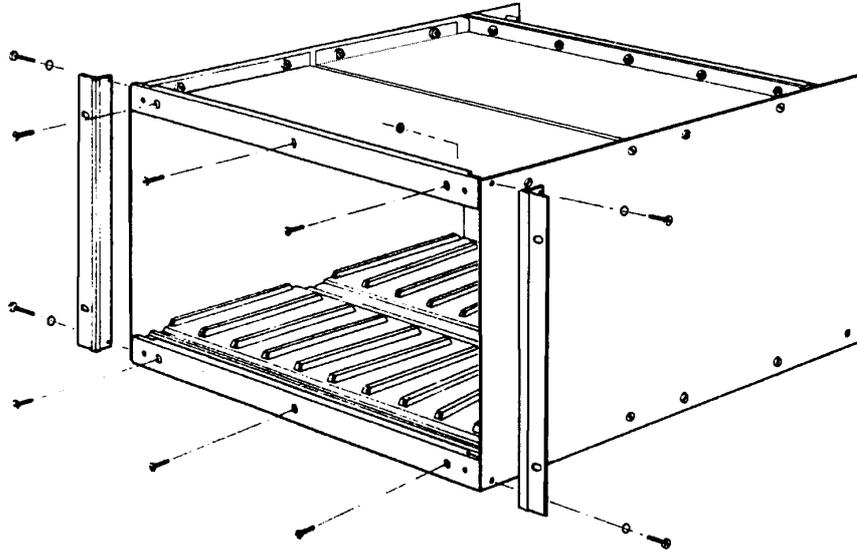

Figure 3.5 Fixing the front trims and rack ears on the IMP mounting frame.
Figure 3.5 Fixing the front trims and rack ears on the IMP mounting frame.....	3-8
- 4** To secure the plastic runners at the front of the mounting frame, fix the upper and lower front trims with M4 countersunk screws. Fix a rack ear at each side of the mounting frame, using M4 pan head screws and crinkle washers. (See Figure 3.5.)